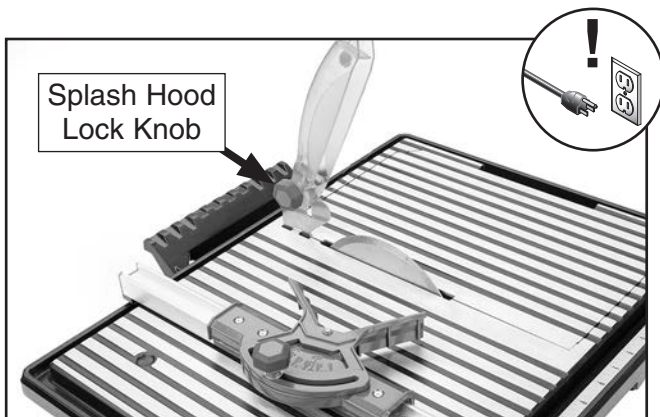

Figure 46. Splash hood lifted for fence adjustment.
2. Loosen splash hood lock knob, lift hood fully, and tighten lock knob to secure (see **Figure 46**).